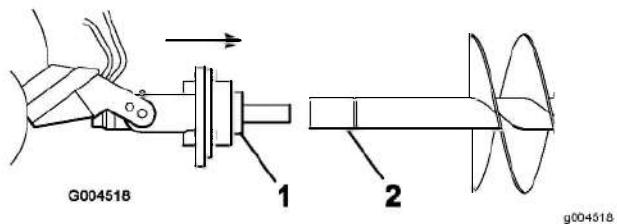

**Figure 6**
6. If using an extension with the auger, insert the end of the extension into the end of the auger and secure the auger to the extension with a bolt (7/8 x 4-1/2 inch) and nut (7/8 inch) as shown in Figure 6.